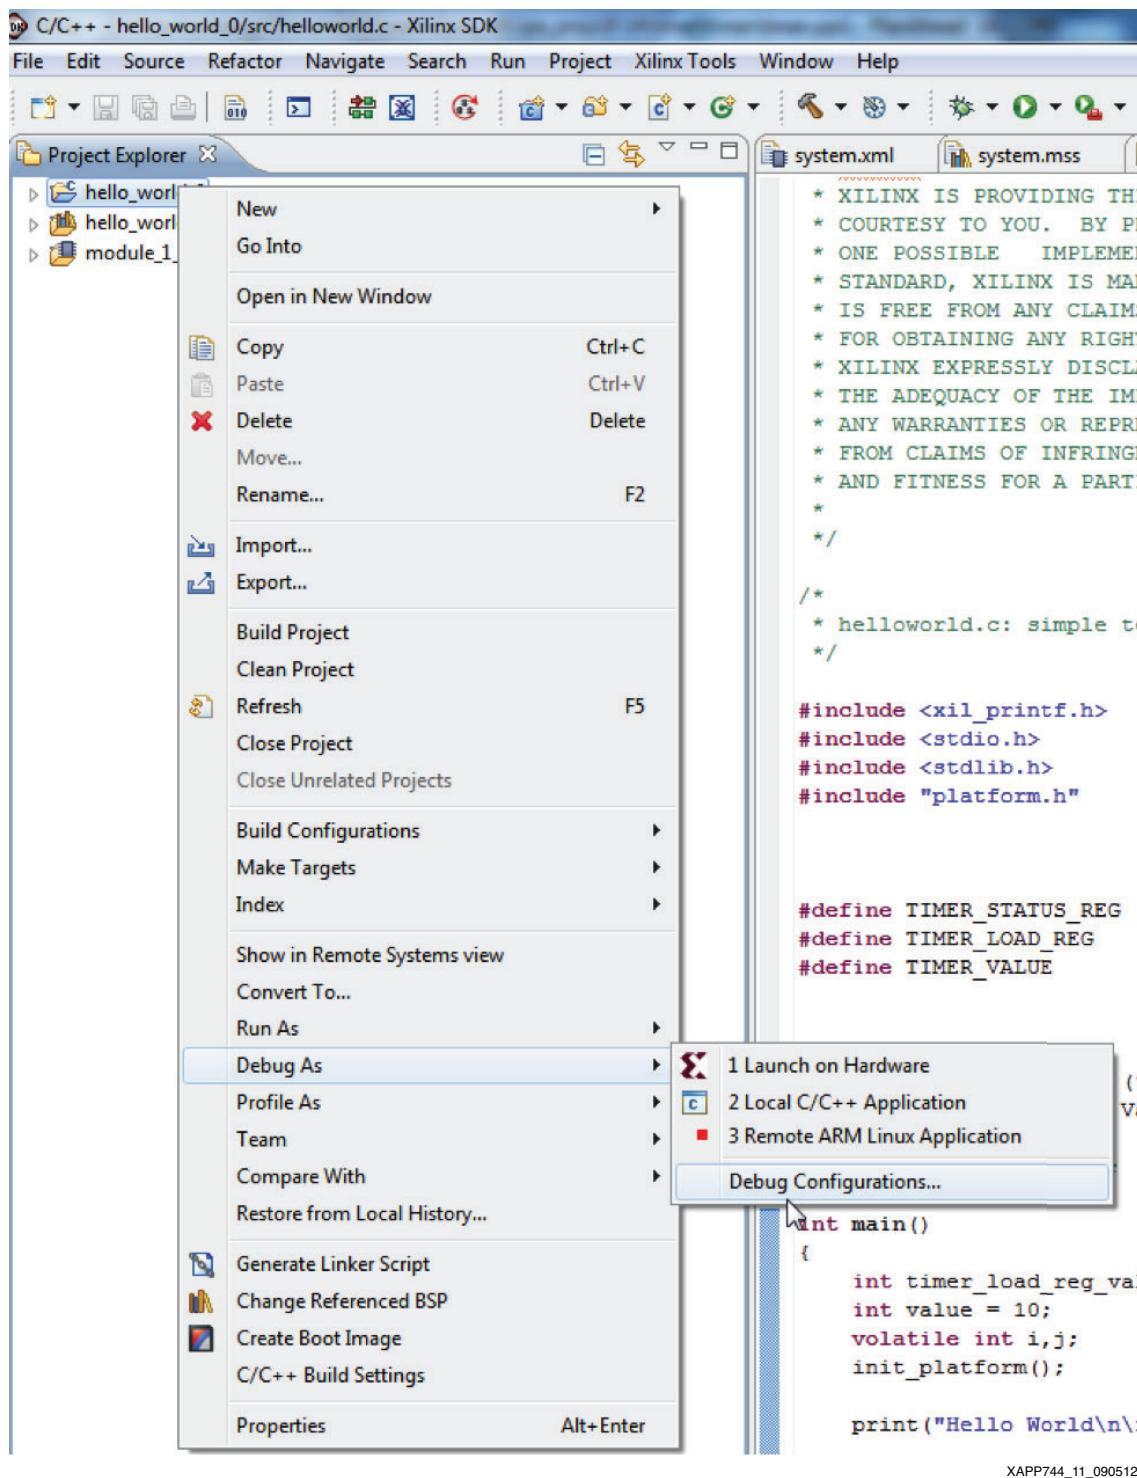

Figure 11: Debug Configurations Example
7. Select Debug As > Debug Configurations (see Figure 11).